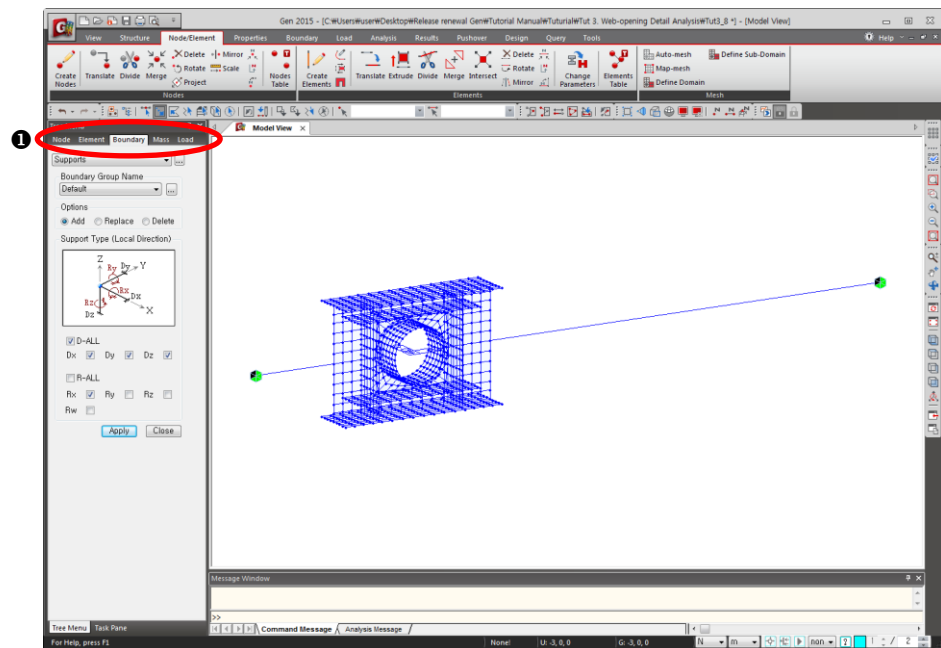

Figure 3.15 Definition of Support Conditions
1. Select **Boundary** in the **Model Entity** tab (Fig.3.15–❶).